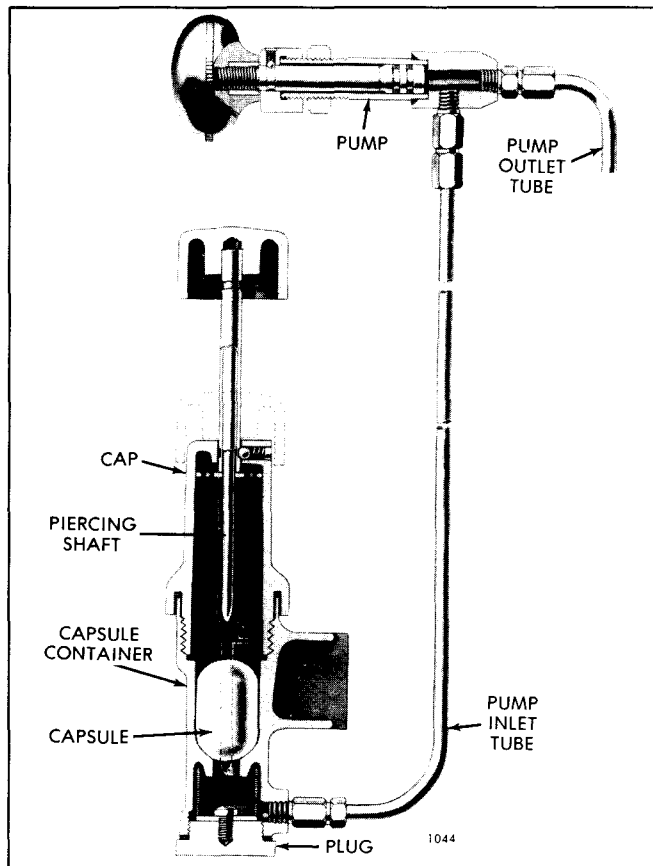

Fig. 2 – Fluid Starting Aid
The fluid starting aid is designed to inject a highly volatile fluid into the air intake system to assist ignition of the fuel at low ambient temperatures. It consists essentially of a pump and nozzle for injecting the fluid into the air intake, and a suitable container for the fluid (Fig. 2). The fluid is contained in suitable capsules to facilitate handling.
1. Refer to Fig. 2 and remove the cap from the capsule container. Insert a fluid capsule in the container.